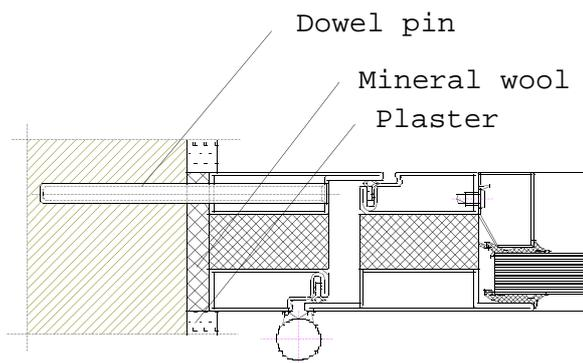

Fig. 6 – Spacing of dowel pins
- Fig. 6 – Mounting the glass (Detail 2)